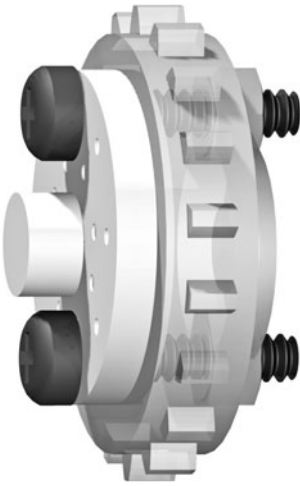

Figure 26-22 Hardware detail for mounting a small round servo horn onto the drive sprocket that comes in the Tamiya Track and Wheel Set.
4. As shown in Figure 26-22, attach the servo disc to the sprocket using a pair of 4-40 × 3/8" machine screws and nuts.